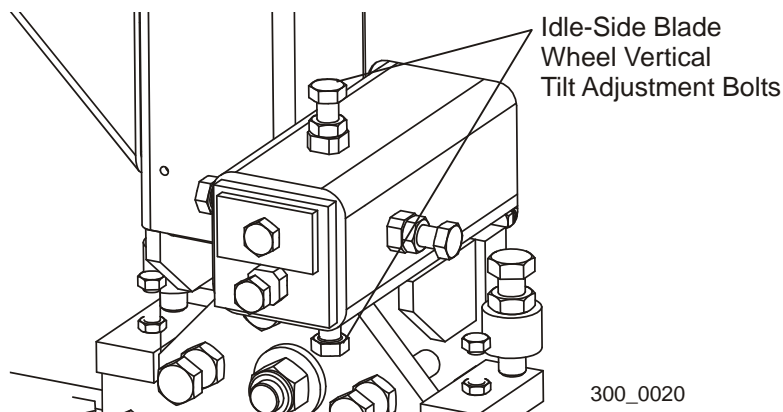

FIG. 7-13
**See Figure 7-13.** Attach the blade guide arm alignment tool to the blade guide arm, near the outer blade housing. Measure the distance from the back edge of the blade to the tool. Move the tool to the end of the arm near the blade guide. Measure again from the back edge of the blade to the tool. The two measurements at each end of the arm should be the same within 1/32". To adjust the horizontal tilt of the arm parallel to the blade, adjust the bolts (A & B) on the blade guide arm mounting plate. Loosen the jam nuts. Adjust bolt (A) out and bolt (B) in to move the arm away from the blade. Adjust bolt (B) out and bolt (A) in to move the arm toward the blade. Recheck the distance from the back edge of the blade to the tool at both ends of the arm. Readjust if necessary. Tighten the jam nuts.